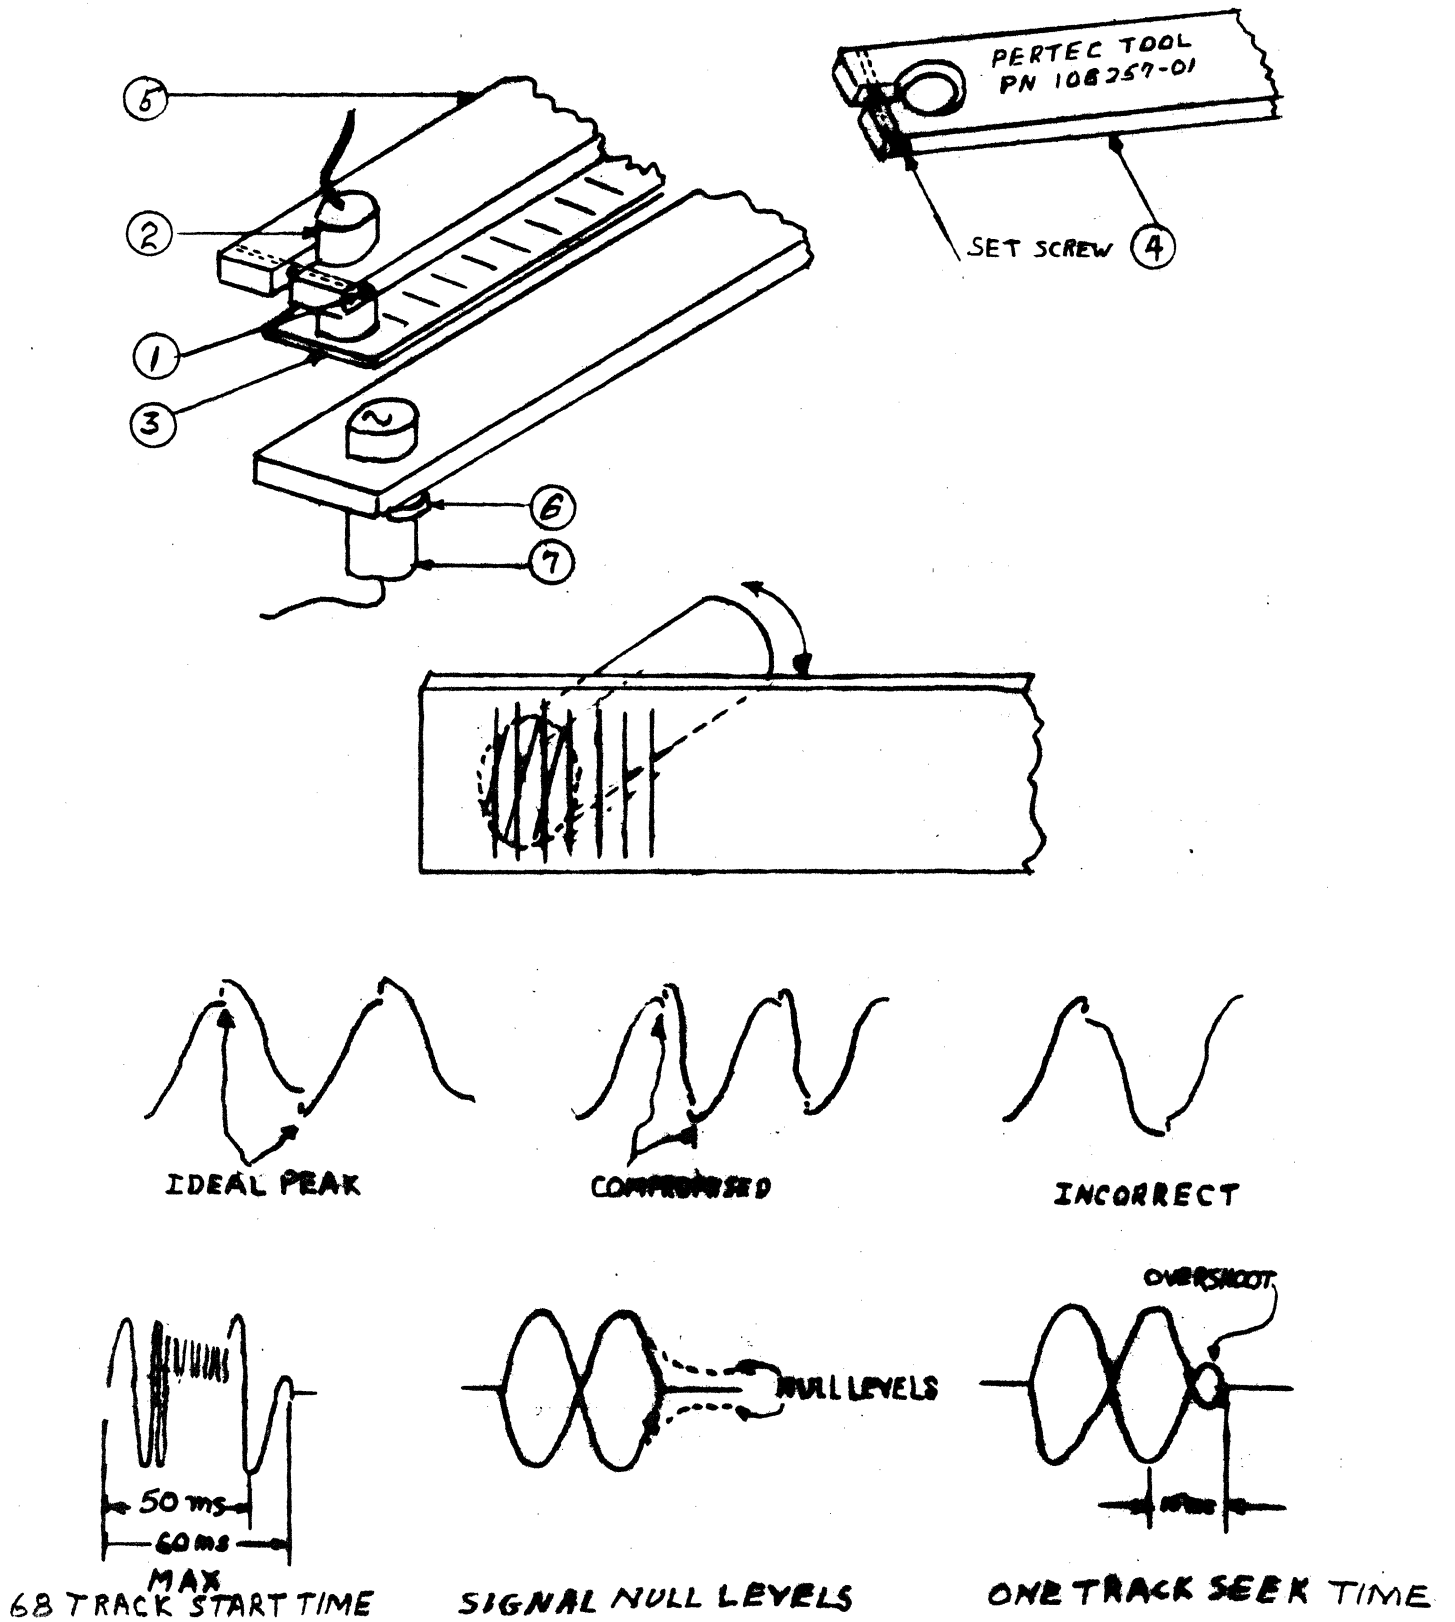

Figure A-1. Photocell Alignment and Related Waveforms
- (1) Loosen socket head screw, (① Figure A-1).
- (2) Move photo pickup vertically to establish a 0.010 ± 0.003 inch gap between pickup (② Figure A-1) and the lined glass slide (③ Figure A-1). Proceed with the graticule adjustment.
Position the photocell pickup (② Figure A-1) as follows.
- (1) Loosen retaining screw in the positioning tool and slip the tool down and around photocell and tighten.
- (2) Loosen holding screw (① Figure A-1) on the positioning arm.
- (3) As the heads are moved out, rotate the photocell pickup until the shadows created by the intersection of the slide lines and the graticule lines appear to be three lines moving to the left as viewed from the front of the disk.
- (4) Maintain gap distance of 0.010 ± 0.003 inches between glass slide and the pickup.
- (2) Rotate positioning tool to obtain a maximum output signal from photocell.
- (3) Secure photocell by tightening holding screw (① Figure A-1).
- (4) Loosen lamp retaining nut (⑥ Figure A-1) by using an open end wrench.
- (5) Rotate the lamp (⑦ Figure A-1) until a signal at TP-7 is centered about ground.
- (6) Tighten retaining nut (⑥ Figure A-1).
- (2) Set oscilloscope to internal Sync.
- (3) Set oscilloscope switch to add algebraically, channels A and B.
- (4) Move heads slowly FORWARD and observe the waveform. The waveform, as shown in Figure A-1, should approach either the IDEAL or COMPROMISE condition. If the waveform does not represent the IDEAL or COMPROMISE condition, perform Step (6). The digital waveform at TP-2 should occur as close as possible to the analog peak shown at TP-7.
The incorrect waveform of Figure A-1 illustrates a waveform that is 180° out of phase.
- (5) Loosen the holding screw on the positioning arm (① Figure A-1).
- (6) Rotate the positioning tool until the IDEAL or the COMPROMISE waveform is obtained.
- (7) Tighten the holding screw on the positioning arm (① Figure A-1).
- (8) Remove the positioning tool.
- (9) Recheck X + 90 Adjustment, Step (5).
- (10) Recheck X + 0 Adjustments.
- (1) Connect oscilloscope to VCAC TP-9.
- (2) Perform a 68 track repetitive seek with CE Board.
- (3) Adjust R48 (VTG) on VCAC to set waveform pattern start time to stop time (lock null) from 40 to 50 milliseconds. See Figure A-1.